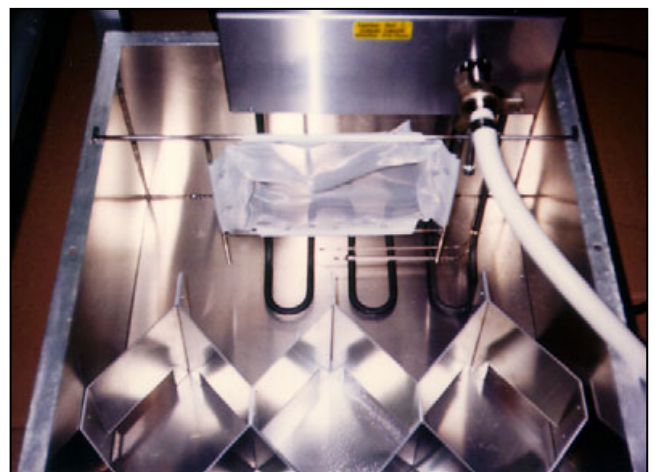

Figure 2-5. Positioning the Filter Frame for Melting.
1. Position the filter assembly so you can add shortening. The edge of the kettle has one or two sets of holes in it. Use the set of holes that is nearer to the heater head. When two of the filter frame's pins rest in these holes, the filter assembly hangs vertically. (See Figure 2-5.)